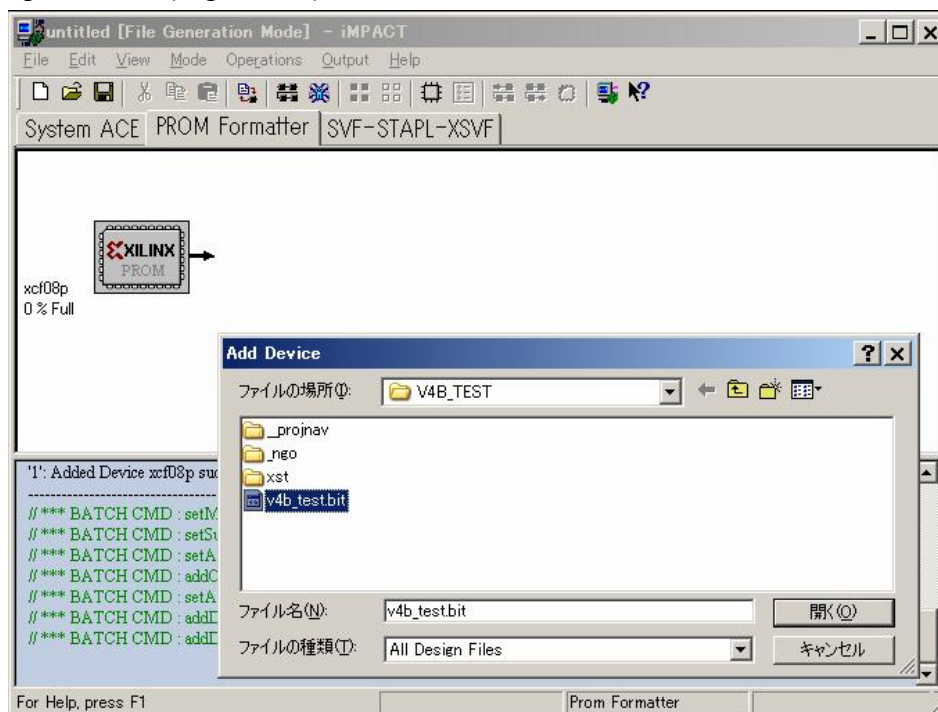

Figure.22
8) Specify a target bit file (Figure.22).